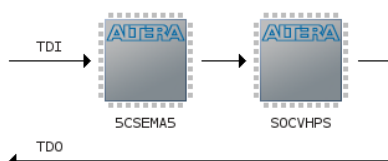

Figure 8-17. JTAG Scan Chain
You should now see 2 devices on the JTAG scan chain, as shown in Figure 8-17.
37. Right-click on the “5CSEMA5” device shown in Figure 8-17 and choose “Edit > Change File”. Then, select “DE1\_SoC\_demo/RTL/quartus/output\_files/DE1\_SoC\_demo.sof” through the file browser.